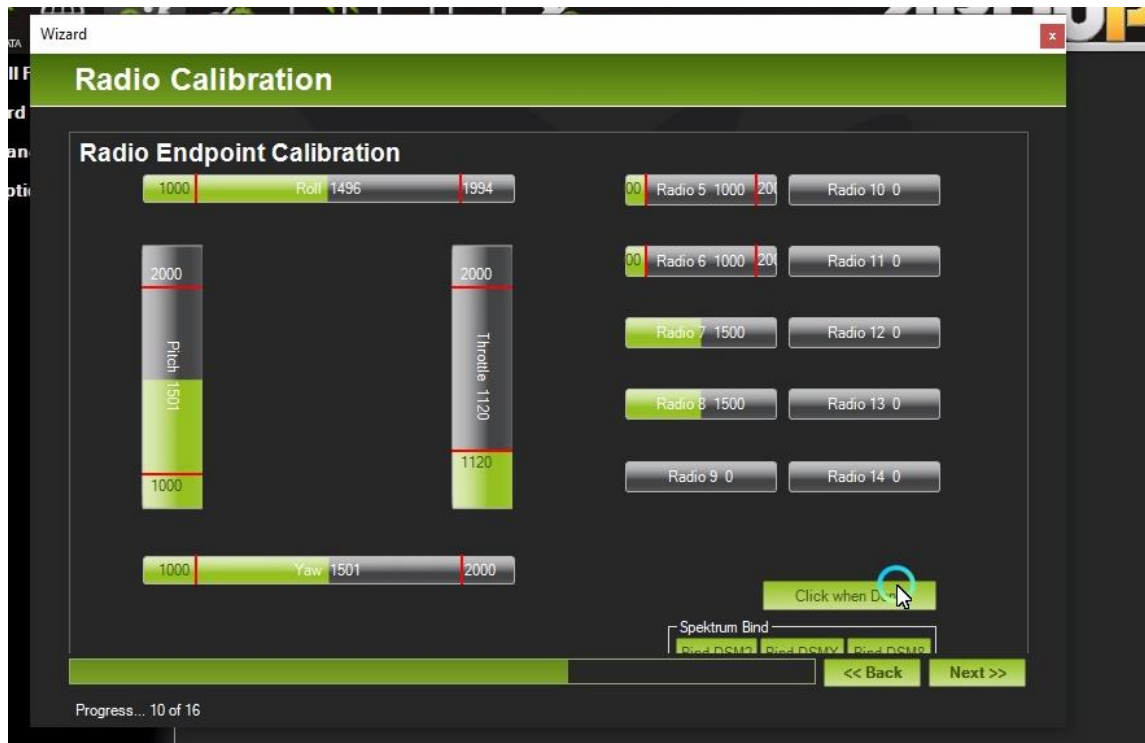

Fig.4.13
15. After moving all the sticks, you will see a red line at the endpoints. (Refer Fig.4.13). Now, click done.